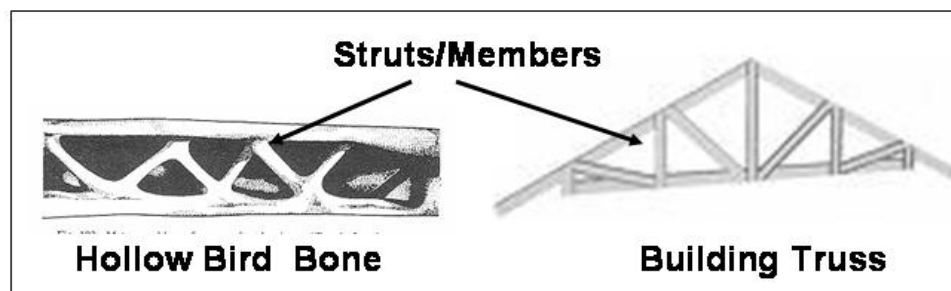

Figure 10. Cross section a bird ulna (arm bone) compared to a building truss used in construction (from D’Arcy Thompson 1917).
- Can you think of any anatomical structures in animals that look similar to the bridges? If your answer was “a backbone,” then you are very clever! In fact, in 1917, D’Arcy Thompson, a Scottish biologist and mathematician proposed the very same analogy in his most famous work, *On Growth and Form*, in which he compared the front and hind limbs of a vertebrate to the piers of a bridge, and the spinal column to the bridge’s span. In truss bridges, the materials used and their arrangement are very important to the strength and integrity of the bridge. Likewise, the shapes and arrangements of bones in an animal’s body are important in supporting the animal. Take a look at the internal structure of a bird wing bone compared to that of a building truss, shown in Figure 10. Bird wings are designed for maximum strength and minimum mass.